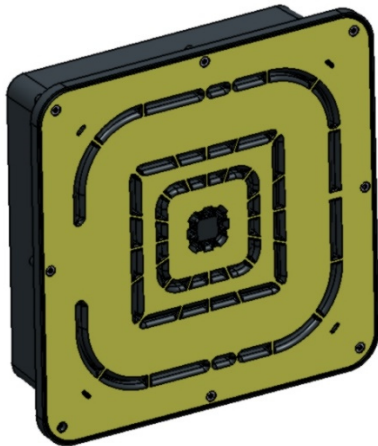

Figure 9
- 2.5. Apply on the entire surface of the base of the transmitter silicone paste for marine use that does not contain particles or metal additives (fig. 9).